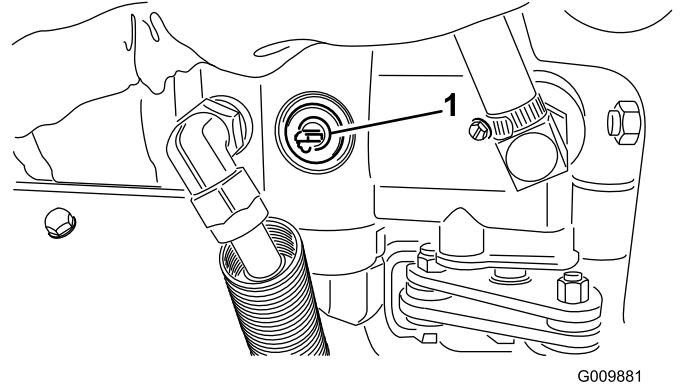

Figure 31
1. Locate the bypass valve on the pump (Figure 31) and rotate it 90° (the bypass valve lever should be horizontal when it is open).